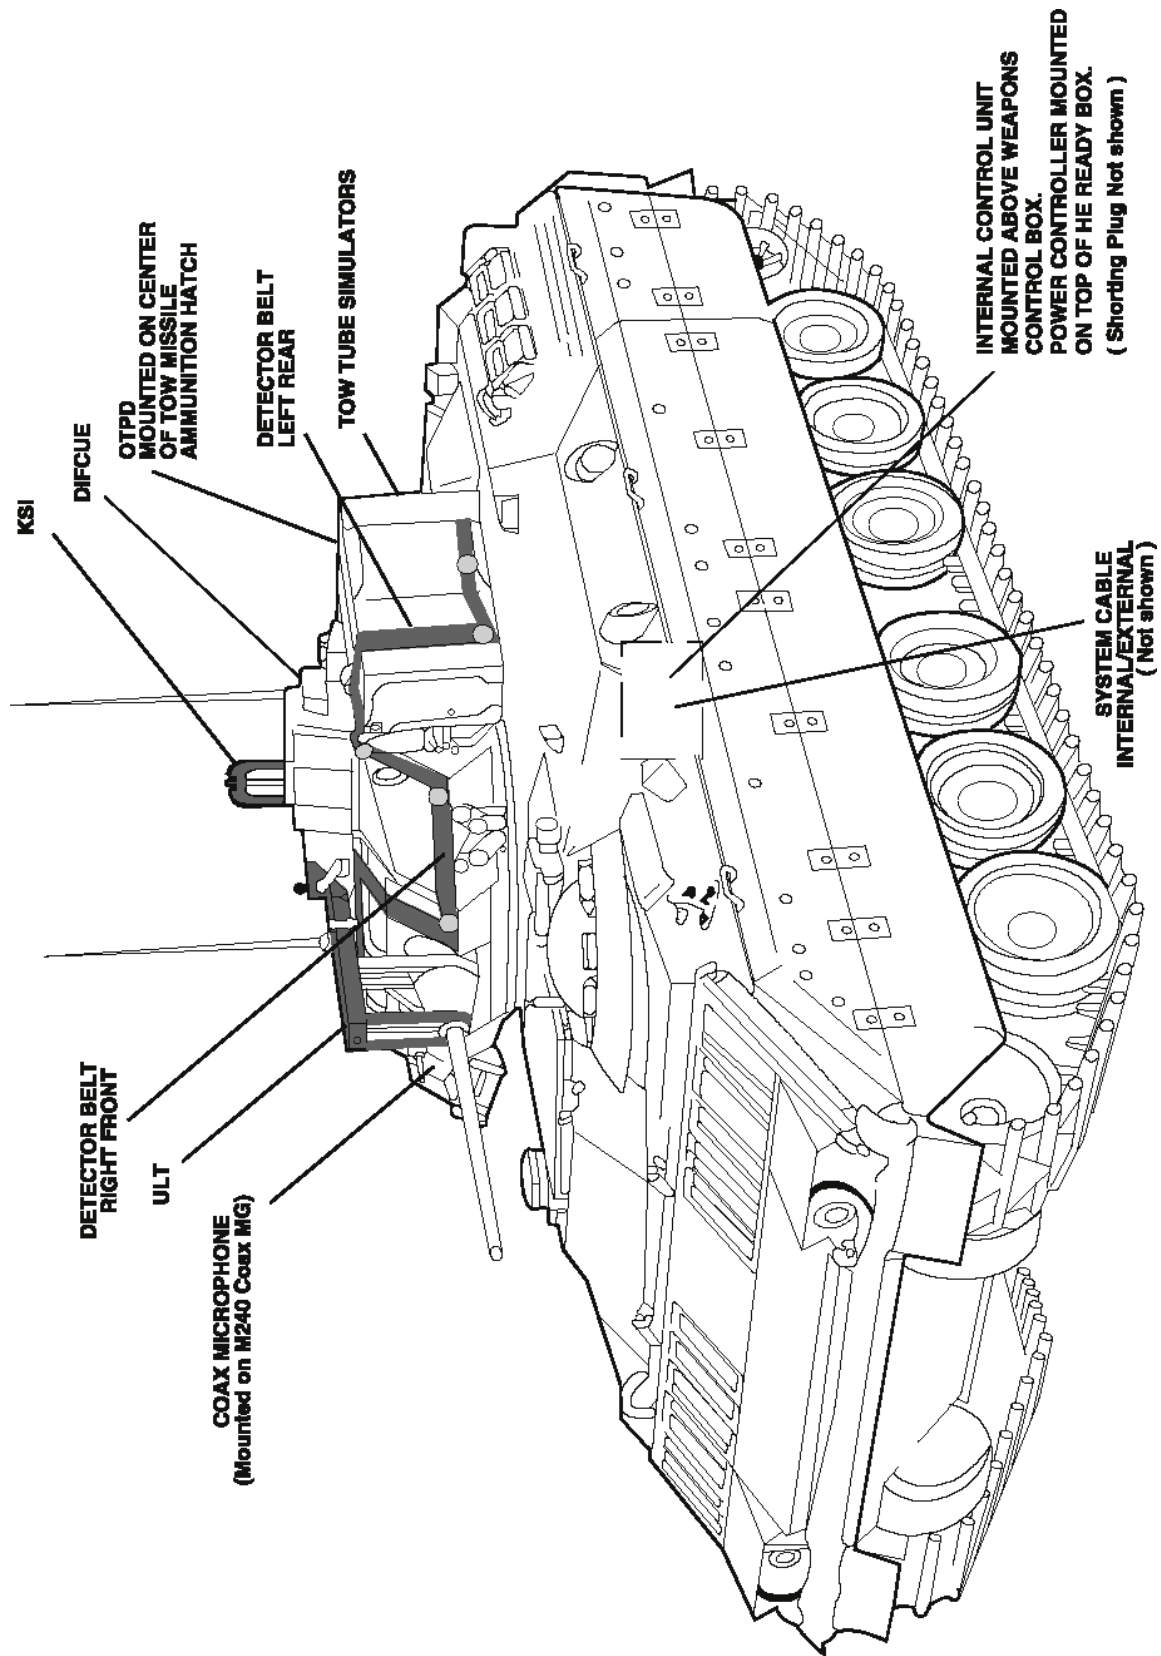

Figure 2-13. M2/M3 Bradley Fighting Vehicle.
2.3.2 Installation of MILES 2000 on M2/M3. (See Figure 2-13)